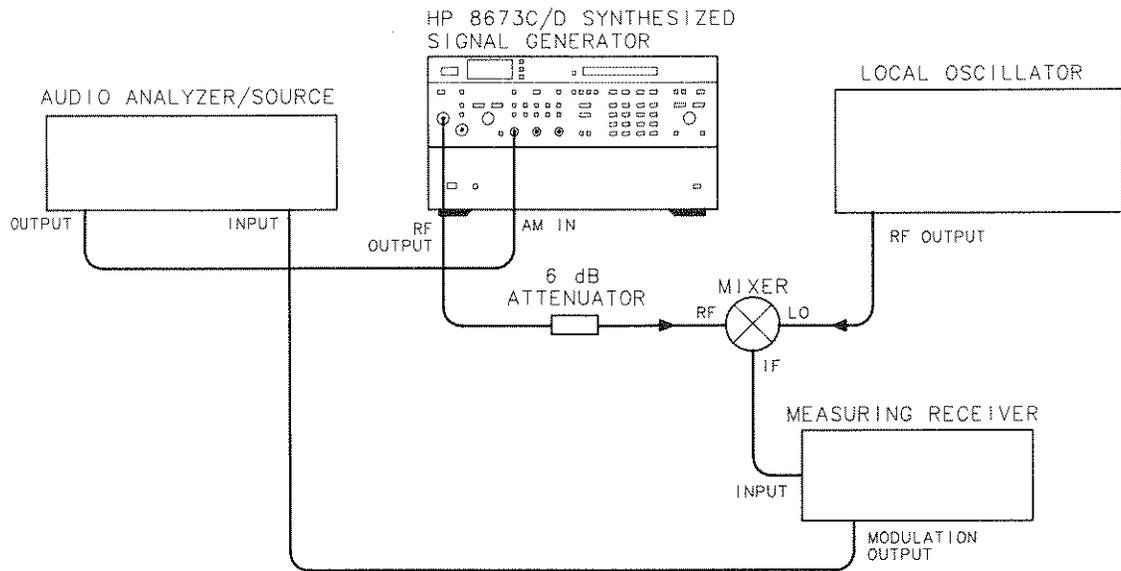

Figure 4-32. AM Bandwidth Test Setup
1. Connect the equipment as shown in Figure 4-32.